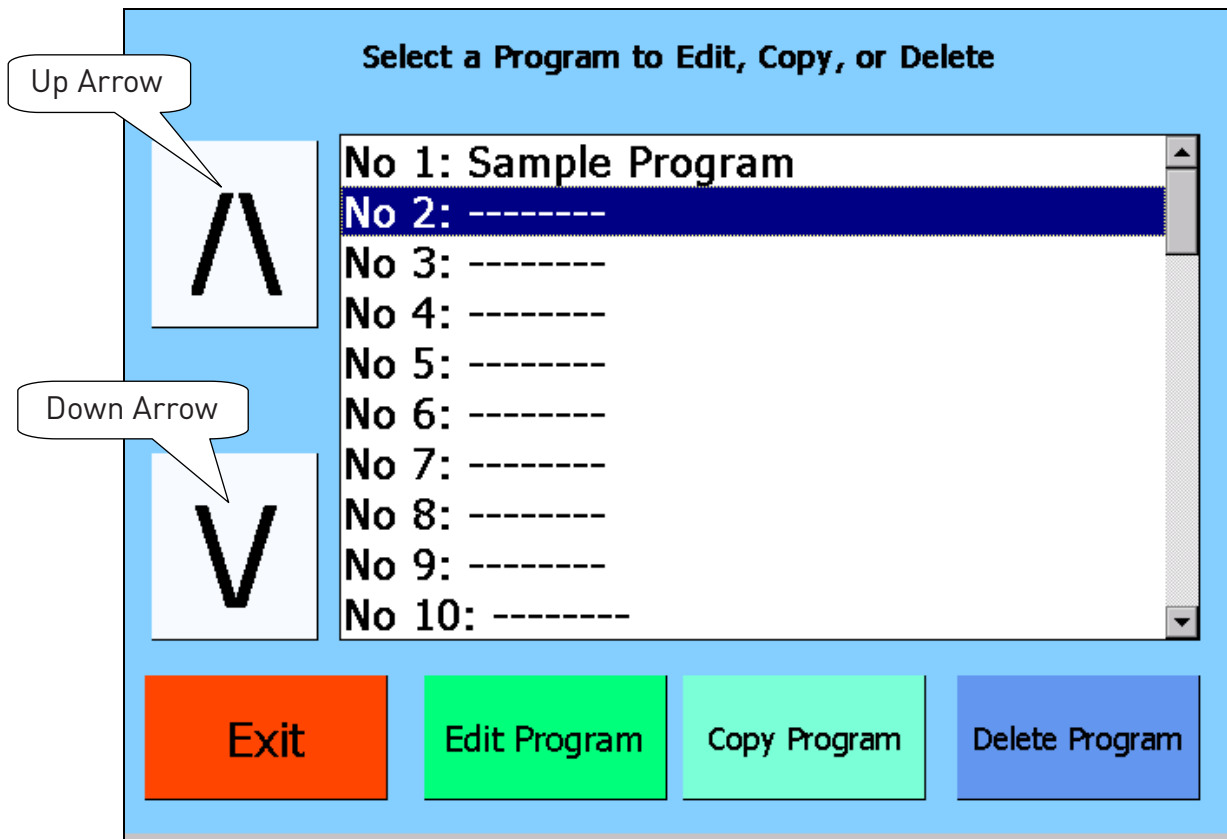

Figure 0-1: Select Program Screen
2. New programs are created by editing blank programs. Blank programs are typically labeled with hyphens as shown in Figure 0-1. Use the up and down arrow keys to navigate through the list of existing programs numbered 1-40.